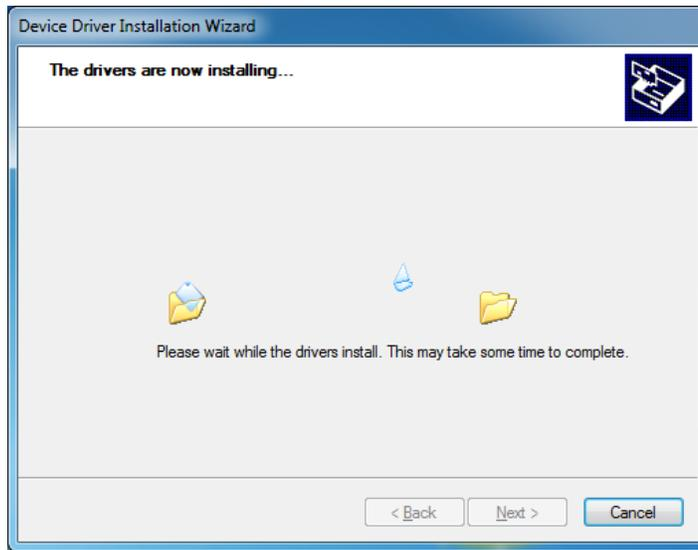

Figure 1-4: Driver Installing
Step 7: The driver starts to install and the screen in **Figure 1-4** appears.